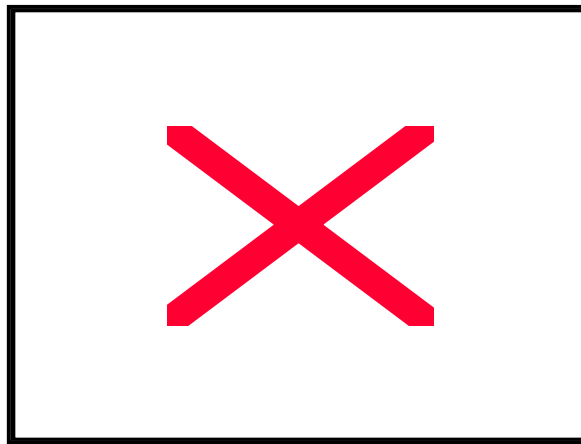
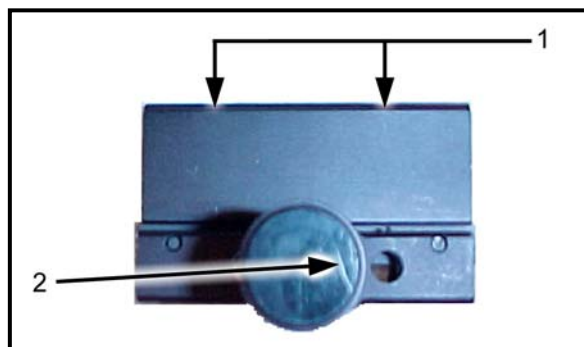

Figure 2-18. Insight rail grabber.
Figure 2-20. Picatinny rail grabber.
The Insight rail grabber (Figure 2-18) and the Picatinny rail grabber (Figure 2-20) were designed to mount accessories onto the M16A4 and M4-series weapons. Each rail grabber has proven its ability to retain zero when installed and tightened properly. Both rail grabbers attach accessories on the upper receiver and on all four sides of the RAS. Once zeroed the rail grabbers can be removed from the weapon and will retain zero as long as the rail grabber is not separated from the accessory and is remounted on the exact same notch it was zeroed on. If the accessory and rail grabber is reinstalled on a different notch, or the rail grabber is separated from the accessory, they must be rezeroed. A one-time retightening of the rail grabber and accessory is recommended after the first three rounds are fired to fully seat both. Details specific to each rail grabber are outlined in the following paragraphs.
a. **Insight Rail Grabber** (Figure 2-18). The Insight rail grabber is used to install the AN/PEQ-2A and AN/PAQ-4B/C. This rail grabber must fully rest on the RAS in order to retain zero. The locking clamp (1) must grasp the RAS, and the screw that tightens the rail grabber must be tightened with a field tool such as a multipurpose tool.
(1) Both of the holes (2) located in the top of the rail grabber can be used to mount accessories, but the hole closest to the muzzle must be used. This ensures the majority of the rail grabber is supporting the accessory being mounted to prevent damage to the accessory.
(2) The rail grabber can be mounted where the tightening screw (3) is on either the left or right side (when top mounted) or top or bottom (when left side mounted) so it does not interfere with the operation of the weapon.
(3) Unless command-directed, all devices in a unit do not have to be mounted in the same location as long as the individual users record or mark the mounting location on their weapon to avoid unnecessary rezeroing. (Some examples of marking techniques are paint markers and grease pencils.)
(4) Even if the rail grabber is resting entirely on the RAS, accessories should not make contact with the front sight assembly or the collar of the barrel. The vibrations that occur during firing will interfere with the rail grabber's and accessory's zero retention capabilities.
c. **Picatinny Rail Grabber** (Figure 2-20). The Picatinny rail grabber must fully rest on the RAS in order to retain zero. The locking clamp must grasp the RAS and the torque-limiting knob (1) that tightens the rail grabber must be hand tightened until it clicks two times.
(1) Both of the holes located in the top of the rail grabber (1) can be used to mount accessories, but the hole closest to the muzzle must be used. This ensures the majority of the rail grabber is supporting the accessory being mounted to prevent damage to the accessory. It also allows the torque-limiting knob (2) to be mounted on either the left or right side (when top mounted) or top or bottom (when side mounted) to ensure the torque-limiting knob does not interfere with the operation of the weapon.
(2) Unless command-directed, all devices in a unit do not have to be mounted in the same location as long as the individual users record or mark the mounting location on their weapon to avoid unnecessary zeroing. (Some examples of marking techniques are paint markers and grease pencils.)
(3) Even if the rail grabber is resting entirely on the RAS, accessories should not make contact with the front sight assembly or the collar of the barrel. The vibrations that occur during firing will interfere with the rail grabber's and accessory's zero retention capabilities.